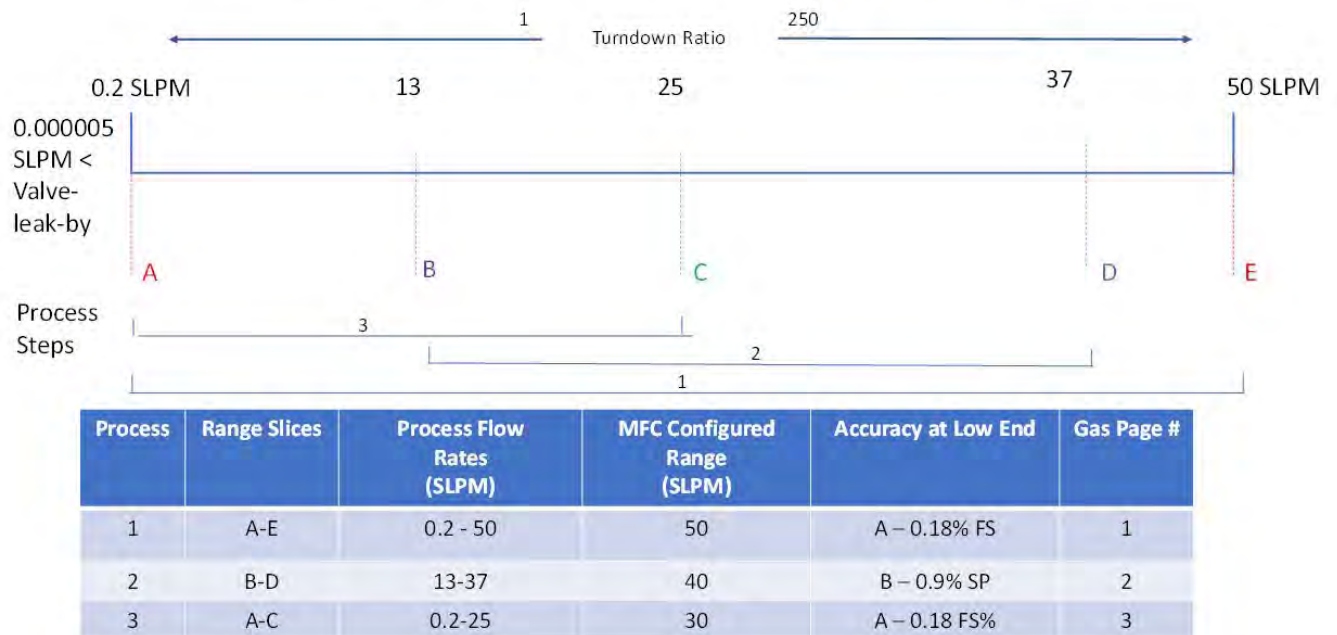

Figure 4. Range Slice Example for 50 SLMP O₂ MFC
Figure 4 (See Page 15) depicts the concept of ranges slices within the cardinal range and turndown ratio, using three slices (A-E, B-D and A-C) corresponding to three different processes (1-3), respectively. Configured range is the MFC active gas page full scale setting to address the range slice. The tabular information provides MFC's configured range, flow accuracy at the minimum of the range slice range and chosen gas page. This range slice approach allows one (1) MFC with a cardinal range of 50 slpm, large turndown ratio and three gas pages to satisfy flow requirements for three (3) distinct processes, all within a user-defined accuracy window. Process 1 requires between 0.2 and 50 SLPM of O₂ flow (range slice A-E). The 250:1 turndown and device accuracy ensures stable, accurate repeatable flow at the low end. The same MFC can be configured to 30 SLPM, in-situ, by digitally selecting the appropriate pre-defined gas page. This enables process 3 to be run at 0.2 SLPM – 30 SLPM without removing and recalibrating the MFC. Process 2 has a narrower range, highlighted by minimum flow rate well within the MFC's capabilities.